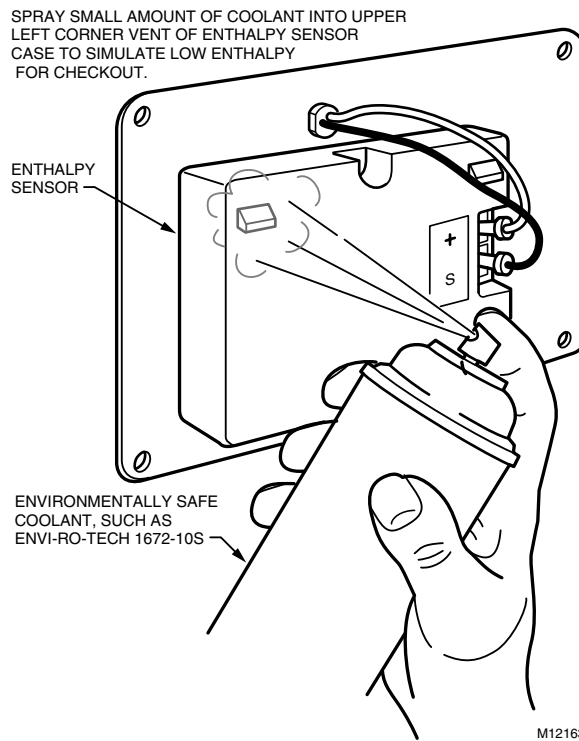

Fig. 9. Use of environmentally safe coolant spray on sensor to simulate low enthalpy during system checkout.
A. Verify that the enthalpy sensor is connected to SO and + and factory-installed 620 ohm resistor is connected across terminals SR and +. Turn enthalpy setpoint to A. With power connected, spray environmentally safe coolant, such as Envi-Ro-Tech 1672-10S, into upper left vent of sensor to simulate low enthalpy conditions. See Fig. 9.	LED turns on in approximately one minute. Control terminals 2, 3 closed; terminals 1,2 open.
C. If using differential enthalpy, verify that the outdoor sensor is connected to terminals SO and + and the return air sensor is connected to terminals SR and +. Turn enthalpy setpoint to D (fully clockwise ). With power connected, spray environmentally safe coolant into upper left vent of H705A Enthalpy Sensor connected to SO and + to simulate low outdoor air enthalpy. See Fig. 9.	LED turns on. Control terminals 2,3 closed; terminals 1,2 open.
D. Spray small amount of environmentally safe coolant into upper left vent of prereturn air C7400A Enthalpy Sensor connected to SR and + to simulate low return air enthalpy. See Fig. 9.	LED turns off. Control terminals 2,3 open; terminals 1,2 closed.